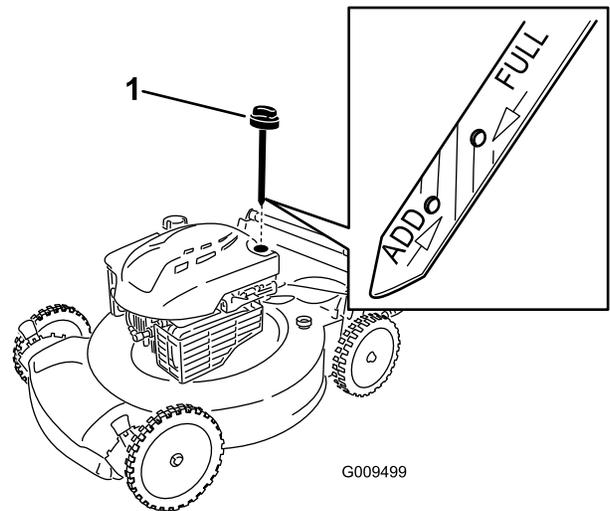

Figure 23
2. Remove the dipstick (Figure 23).
4. **Slowly** pour oil into the oil-fill tube until the oil level reaches the **Full** line on the dipstick (Figure 23). **Do not overfill.**